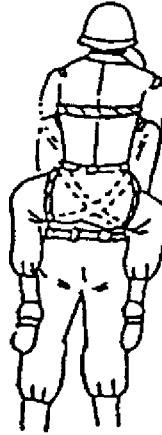

Fig. 7-10
- b. Twist the sling ropes two or three times at the chest of the rescuer and cross the ends; pass the ends over the outside and under the leg of the victim. (Fig. 7-10, 11)